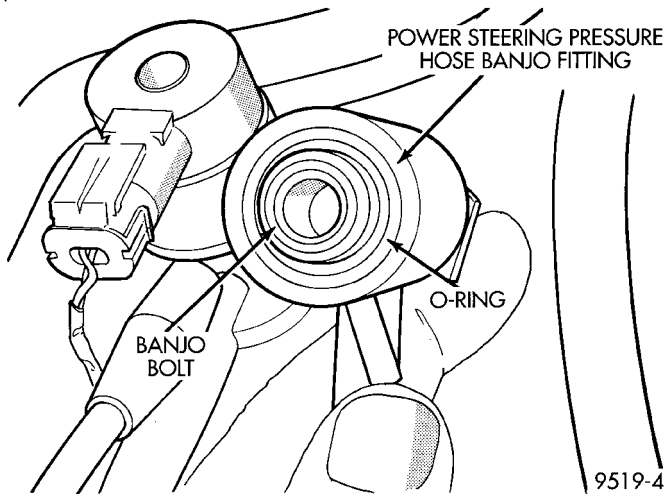

Fig. 13 O-ring Installed On Power Steering Hose Banjo Fitting
- (1) Install power steering pressure hose in vehicle from top of engine compartment.
- (2) Using a lint free towel, wipe clean all open power steering hose ends, and the power steering pump and steering gear ports.
- (3) Install new O-ring on end of power steering pressure hose banjo fitting (Fig. 13).